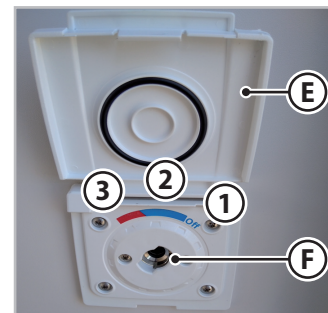

Fig. 6.40 - Shower connection outlet
1. Lift the flap (**E** - Fig. 6.40).
2. Insert the hose supplied into the attachment (**F** - Fig. 6.40).